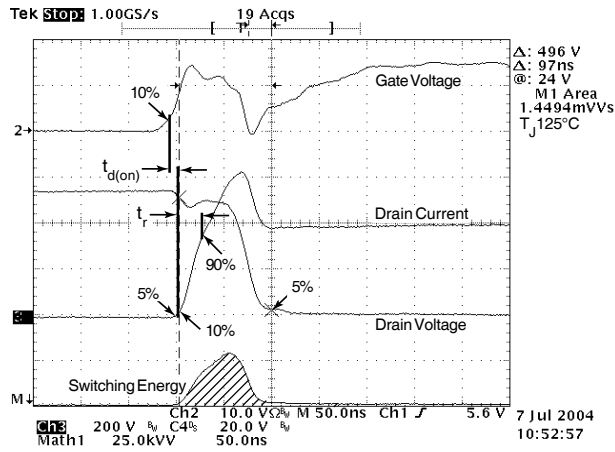

Figure 18, Turn-on Switching Waveforms and Definitions
① Repetitive Rating: Pulse width limited by maximum junction temperature
② Pulse Test: Pulse width < 380 μs , Duty Cycle < 2%
③ See MIL-STD-750 Method 3471
④ Starting $T_j = +25^\circ C$, $L = 4.16mH$, $R_G = 25\Omega$, Peak $I_L = 38A$
⑤ dv/dt numbers reflect the limitations of the test circuit rather than the device itself. $I_S \leq -I_D 38A$ $di/dt \leq 700A/\mu s$ $v_R \leq 800$ $T_j \leq 150^\circ C$
⑥ Eon includes diode reverse recovery. See figures 18, 20.